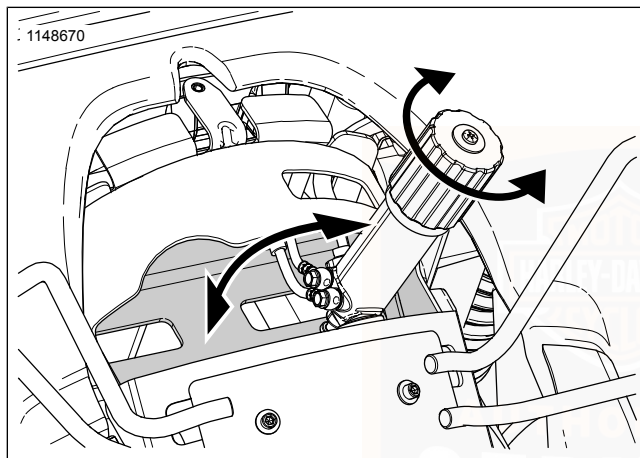

Figure 21. Rear Suspension Adjuster
3. See Figure 21. Rotate adjustment knob clockwise to increase preload setting, or counterclockwise to decrease preload setting until indicator knob shows appropriate preload setting on the scale.